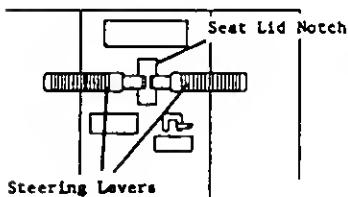

FIGURE 11A
7. Shut the engine off. Unlock the steering levers and place the levers in the full forward position. The levers must rest against the front edge of the notch in the seat lid (see Figure 11A). If levers do not rest against the front edge of the notch, proceed to Step 9, if not, perform Step 8.